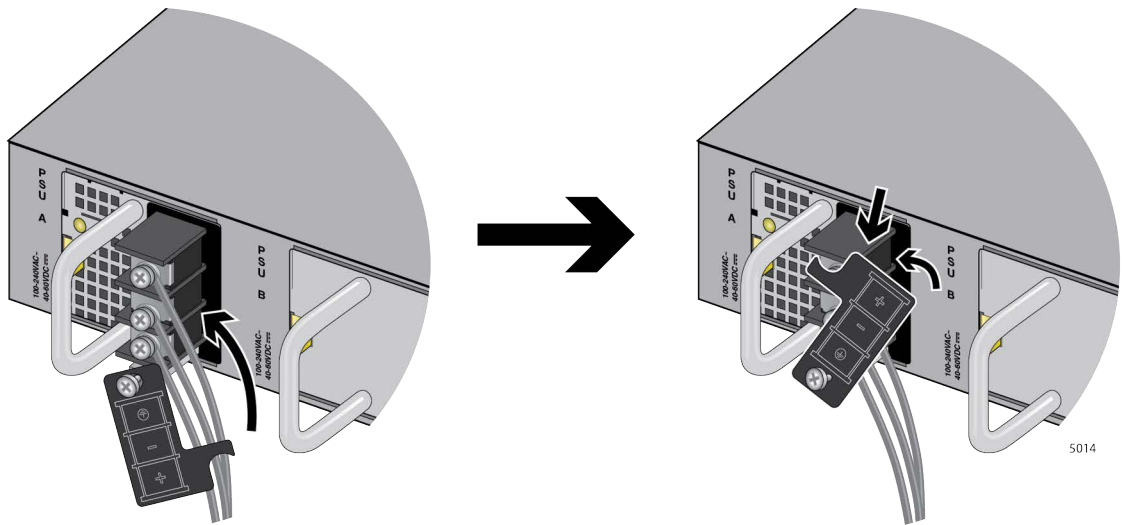

Figure 105. Placing the Cover Panel
8. Place the cover panel back to cover the connectors. Refer to Figure 105.